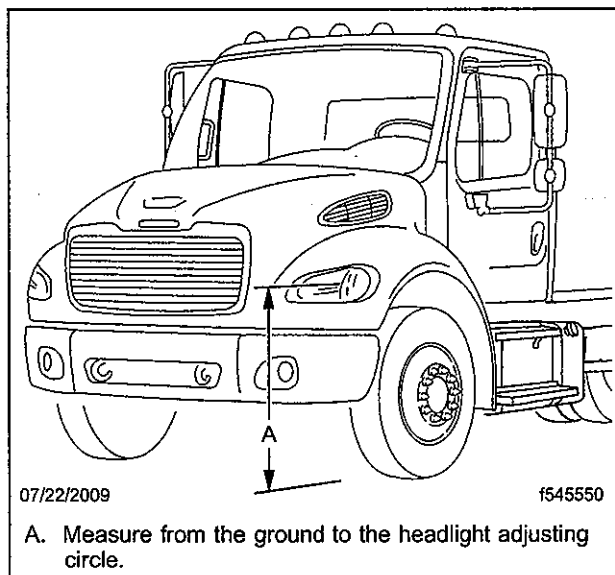
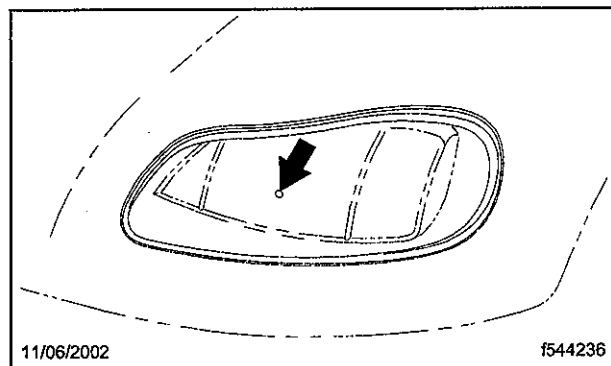

Fig. 1, Headlight Measurement
Fig. 2, Headlight Adjusting Circle
3. Check the height of the headlights. Measure from the ground to the center of the highest headlight lens. See **Fig. 1** and **Fig. 2**. If this distance is 54 inches (137 cm) or less, nothing more needs to be done. Clean a spot on the base label (Form WAR259). Attach a completion sticker (Form WAR260) for recall FL531 to the base label.